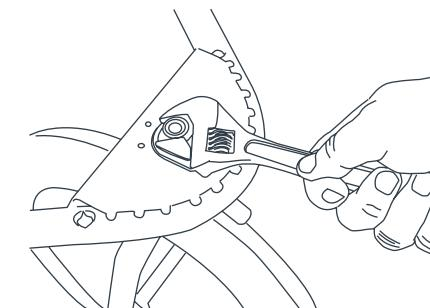

Fig. 21
- 21) • If you experience front wheel wobble that is beyond what is normal for use while walking or jogging you may have to adjust the front wheel housing nut. This nut is located under the footrest located at the front of the jogger. You can use crescent, box, or open end wrench to tighten the nut (Fig. 21). **DO NOT OVER TIGHTEN** this can cause damage to the wheel housing.